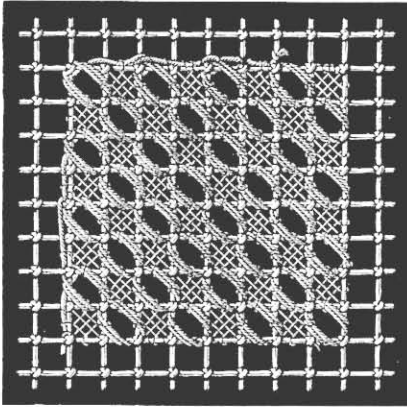

Fig. 50.
**Diagonal ground with the squares framed** (fig. 50). — Pass the needle with a coarse thread under the first knot, from right to left, then diagonally under the next knot